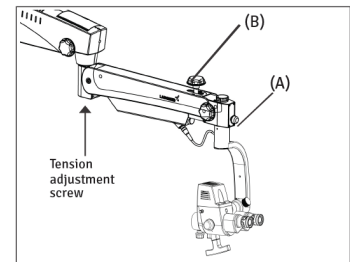

Fig. 48
3. Lock the up & Down movement of suspension arm using locking knob (B) in Fig.48 after focusing of the area of interest.
7. The illumination is controlled through the control knob (A), Fig.48. Rotate it clockwise or anticlockwise to achieve desired illumination level.